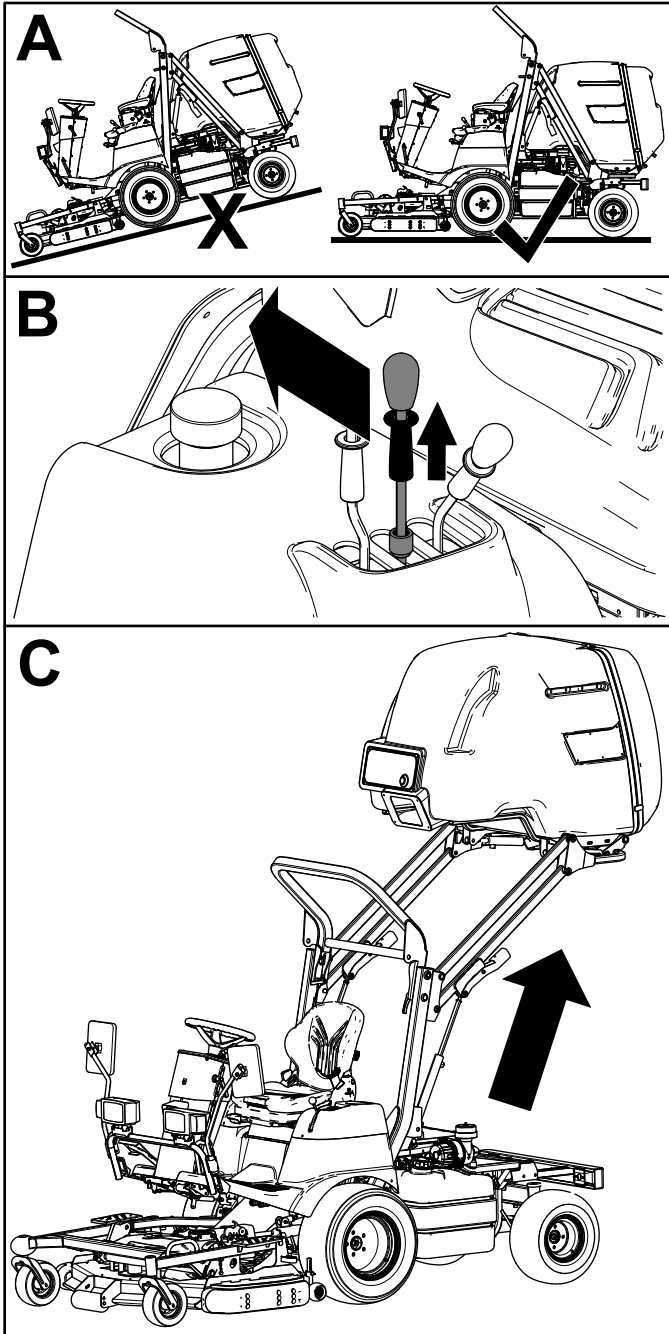

Figure 23
2. Pull the lock collar on the hopper lift lever up and move the lever rearward to raise the hopper (Figure 23).